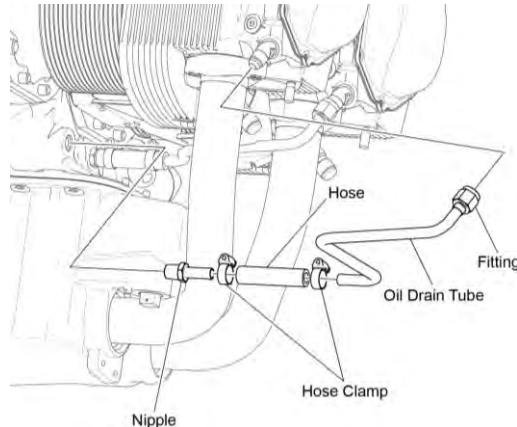

Figure 23
- (1) Connect a new hose to the nipple (Figure 23) in the crankcase.
- (2) Install and tighten a hose clamp on the hose closest to the crankcase.
- (3) Connect the oil drain tube to the elbow at the cylinder with a flange nut. Torque the nut per the latest revision of the **Service Table of Limits - SSP-1776**.
- (4) Connect the hose to the oil drain tube.
- (5) Install and tighten a hose clamp on the hose and oil drain tube connection.
- (6) Torque both hose clamps per instruction in the latest revision of the **Service Table of Limits - SSP-1776**.